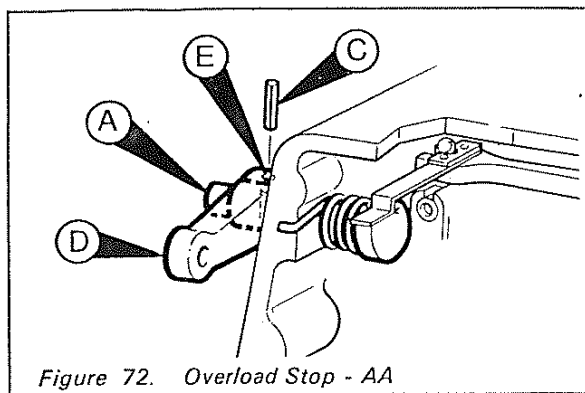

Figure 72. Overload Stop - AA
To initially set the overload stop turn the spindle (A) to align the pin (C) with the hole (E) in the lever (D) as shown in Figure 72.